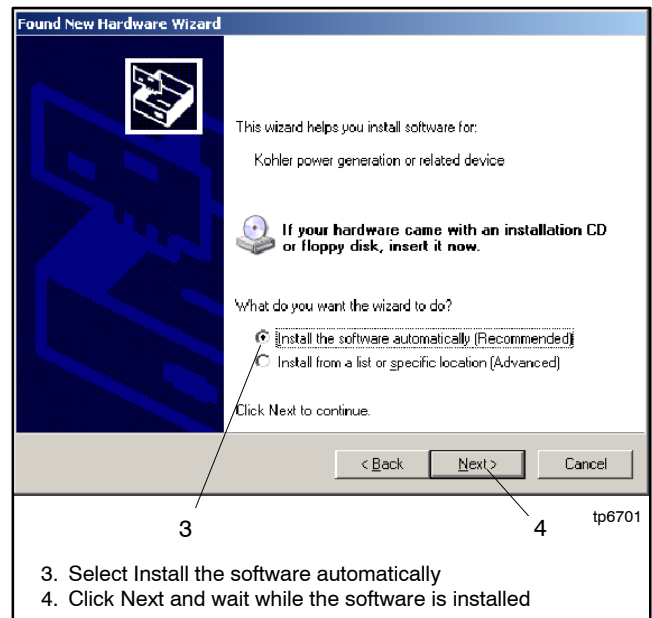

Figure 3-4 New Hardware Wizard Window 2
3. See Figure 3-4. The second window asks about installing the software. There is no installation CD to insert. Select *Install the software automatically*.